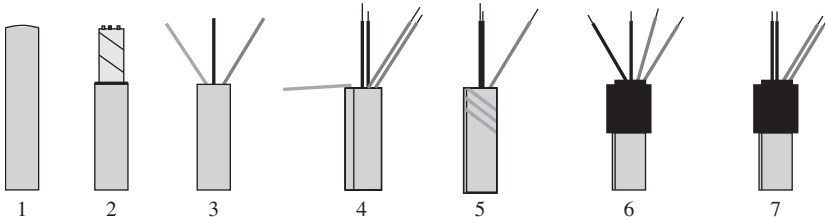

Figure 4-6d
Figure 4-6d is a method for terminating a shielded twisted-pair cable for an RS-485 multipoint network.
3. Remove the shield and separate the wires. In Fig. 4-6d the light gray wire is the shield, the black wire is the R (receive data), and the dark gray wire is the T (transmit data).